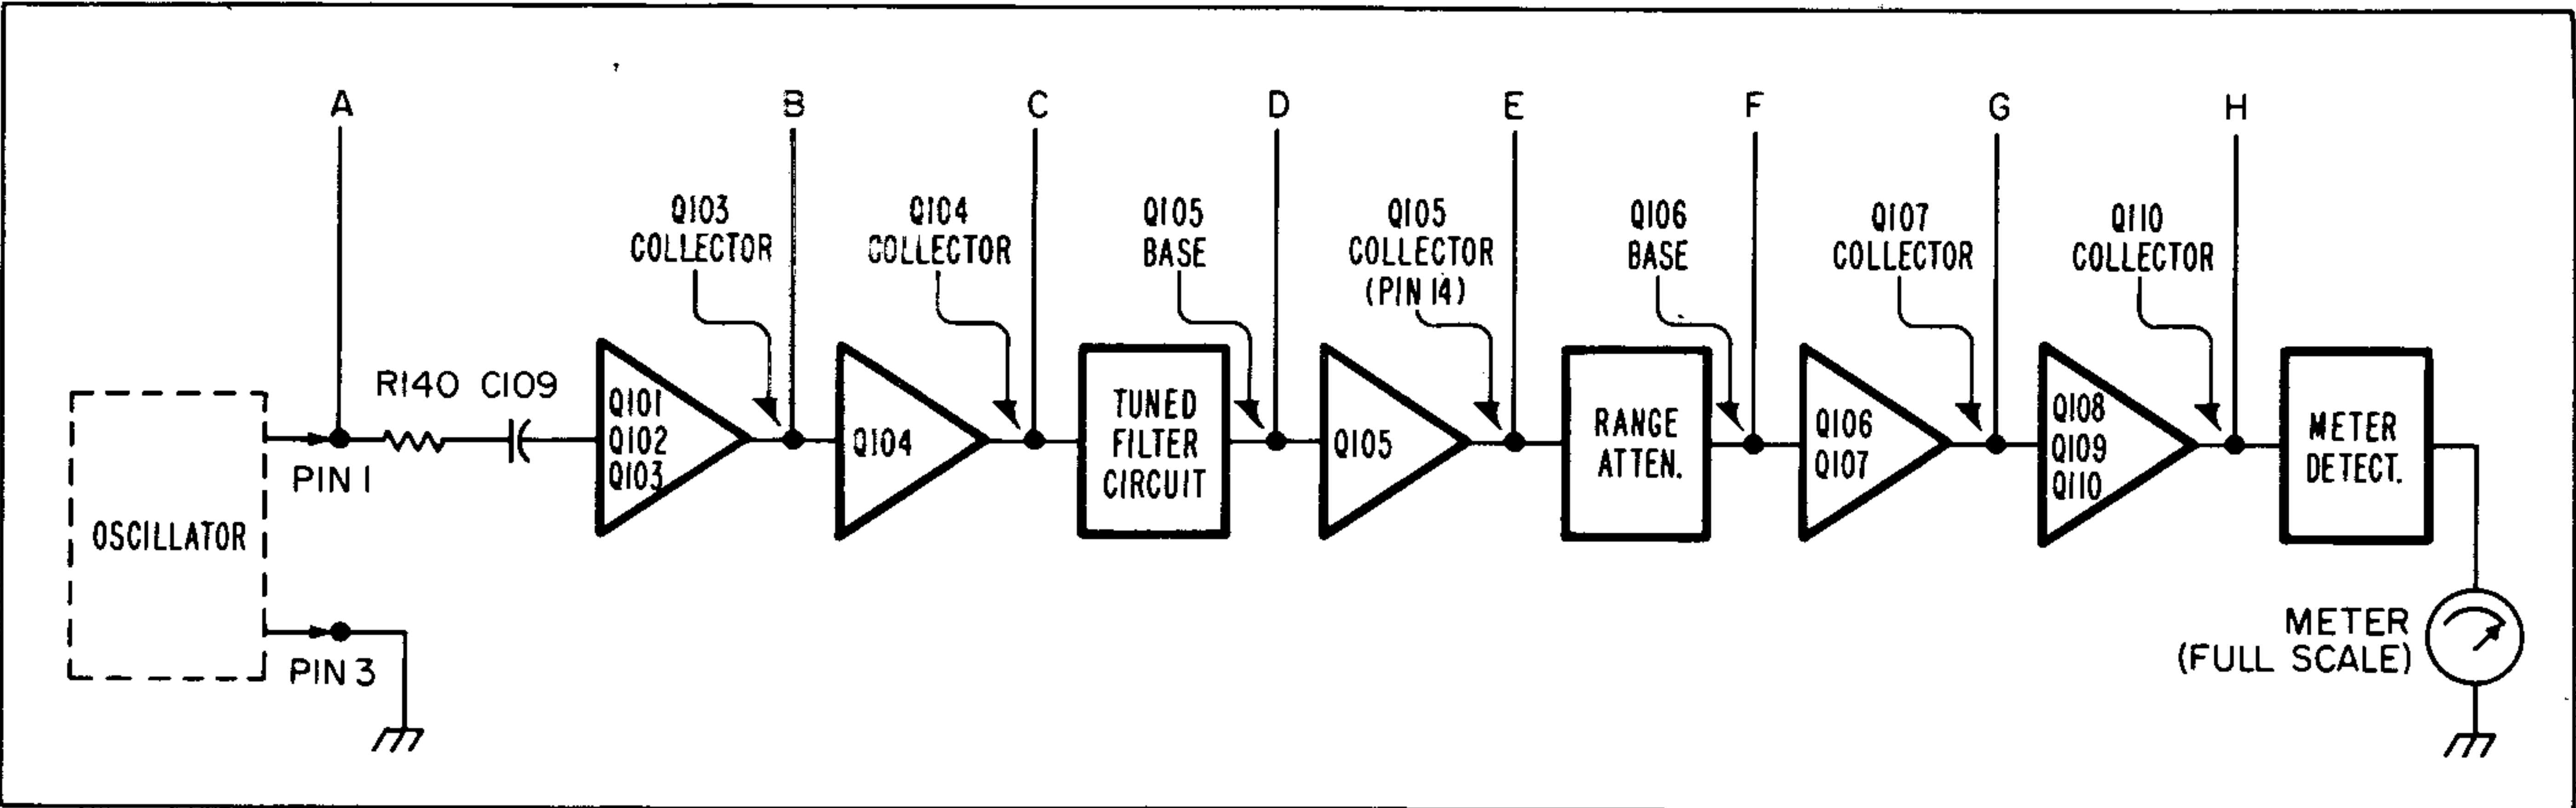

Figure 5-9. Amplifier Gain Test Points
5-34. The gain for sections of the Model 415C amplifier may be checked to locate a low gain section. A convenient method is to apply a signal of approximately 40 μ volts at the input to the amplifier, and measure the gain between selected points with a voltmeter having a sensitivity of 30 μ volts (e.g., the Φ Model 302 Wave Analyzer). Figure 5-9 shows the test points for obtaining the results as shown in table 5-2. Values for gain are approximate.
c. After measuring the input at pin 1, measure the gain between the points indicated in figure 5-9, comparing results with table 5-2.